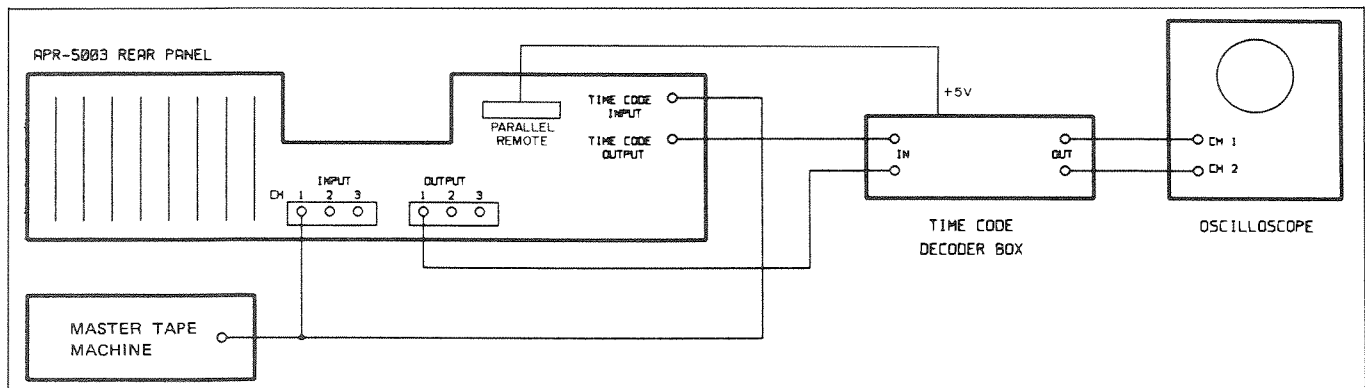

Figure 4-6. CHASE Mode Verification Connections
**STEP 1** Connect the equipment as illustrated in Figure 4-6. On the Oscilloscope, set Channel 1 for normal operation, set Channel 2 for inverted operation, and set the function switch for an algebraic sum display.